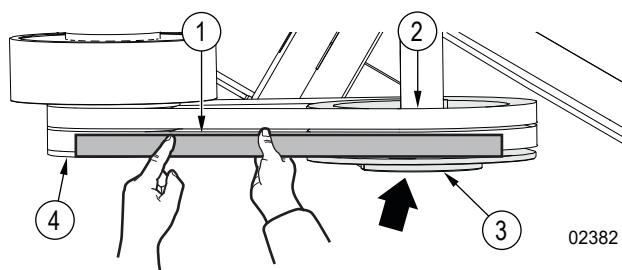

Figure 44—Align the rotor sheave
- If the edge of the engine clutch flywheel is parallel to the straight-edge tool, but is not aligned with the rotor sheave, align the rotor sheave. See *Figure 44* on page 61.